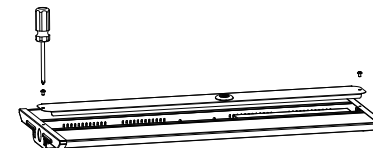

Figure 9
- Step1. Open the face cover with screw driver; (Figure 9)